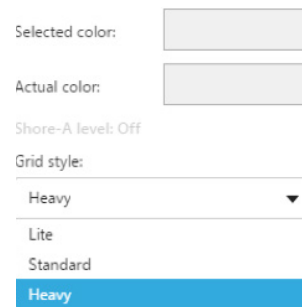

Figure 2: Grid style selection in GrabCAD Print™ (sample).
4. The default grid style used for the support is Lite Grid. Change the grid style to Heavy Grid (Figure 2):